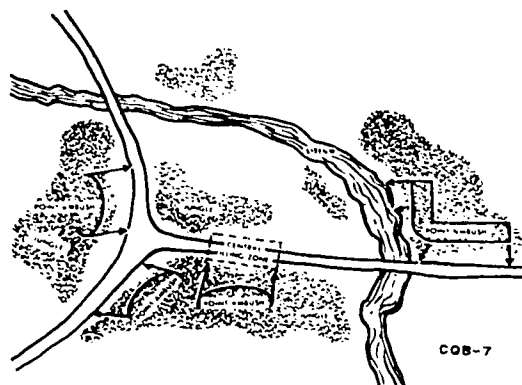

Figure 3-15. Harassing or destructive ambush.
**Ambush patrols.** Ambush patrols wait in hiding to attack and destroy a moving or temporarily halted target, such as a column of troops or vehicles. There are as many types of ambushes as there are imaginations. Figure 3-15 illustrates only a few of the many forms of ambush.